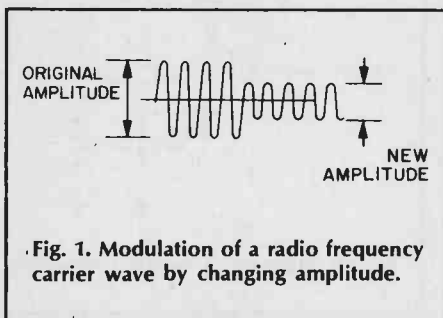

Fig. 1. Modulation of a radio frequency carrier wave by changing amplitude.
**Tropo Scatter.** Fig. 1 shows how microwaves are propagated. As anyone who has driven through a fog at night knows, the light from the headlights striking the fog is scattered and dissipated. Similarly, microwaves traveling through the Earth's lower atmosphere (the troposphere) are scattered. This scattering enables the transmission of some signals far beyond the Earth's horizon. Unlike shortwave signals, microwaves aren't affected by the ionosphere and pass completely through it. Tropospheric, or tropo, scatter is therefore the only means of transmitting over relatively long distances without the use of intermediate repeater stations.
Fig. 1. Microwave propagation. Microwaves are propagated in straight line, from transmitter to receiver, or to satellite. They are also scattered in troposphere, which explains why they can be transmitted to locations which lie well beyond horizon.
The simplest possible AM signal consists of a sudden shift in the *amplitude* of the carrier, as shown in Fig. 1. Similarly, the very simplest FM signal is